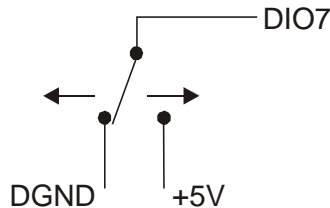

Figure 6. Schematic showing DIO7 detecting the state of a switch
When you configure the digital bits for input, you can use the digital I/O terminals to detect the state of any TTL level input; refer to Figure 6. When the switch is set to the +5 V USER input, DIO7 reads *TRUE* (1). If you move the switch to DGND, DIO7 reads *FALSE* (0).